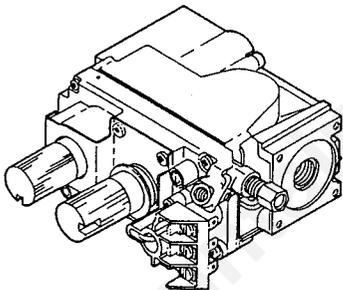

Figure 36
Step 2. Carefully remove the top log. Then remove the two (2) main logs. Exercise care as not to break or scratch the logs.
Step 4. Remove four (4) screws securing the valve to the mounting bracket, two (2) at each side.
Step 5. Remove and replace the valve assembly located on the underside of the appliance at the right side (Figure 36).